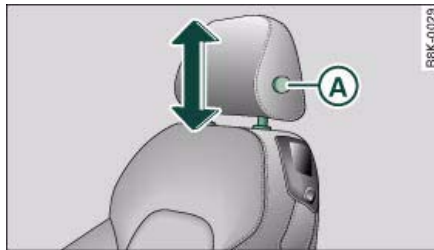

Fig. 75 Front seat: Adjusting head restraint
- Press button (A) ⇒ fig. 75 and push the head restraint downwards.
- You should adjust the head restraint so that the top of the head restraint is *at least* at eye level, or higher ⇒ fig. 75.